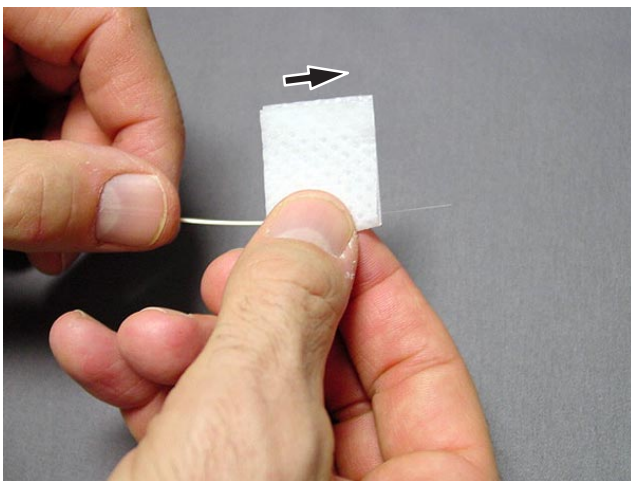

Figure 10
8. Clean the fiber using a lint-free alcohol wipe with >91% ISO. Applying a light squeeze wipe several times (pulling in the direction away from the buffer) as this ensures the fiber is clean. The tensile force that is applied at the same time serves as a proof test to assure fiber integrity after the coating/buffer is removed. If the fiber breaks, start over, and repeat the stripping process. Repeat occurrences of fiber breakage may indicate method or tooling issues which should be investigated. Do not lay the fiber down. Go directly to next step in order to ensure the cleaned fiber is not contaminated. See Figure 10.